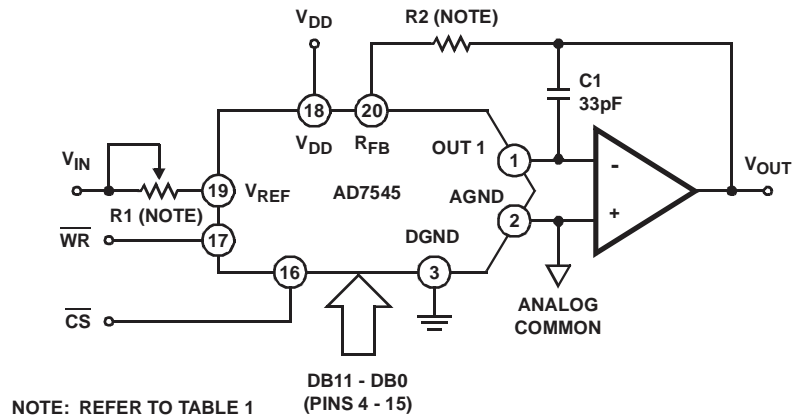
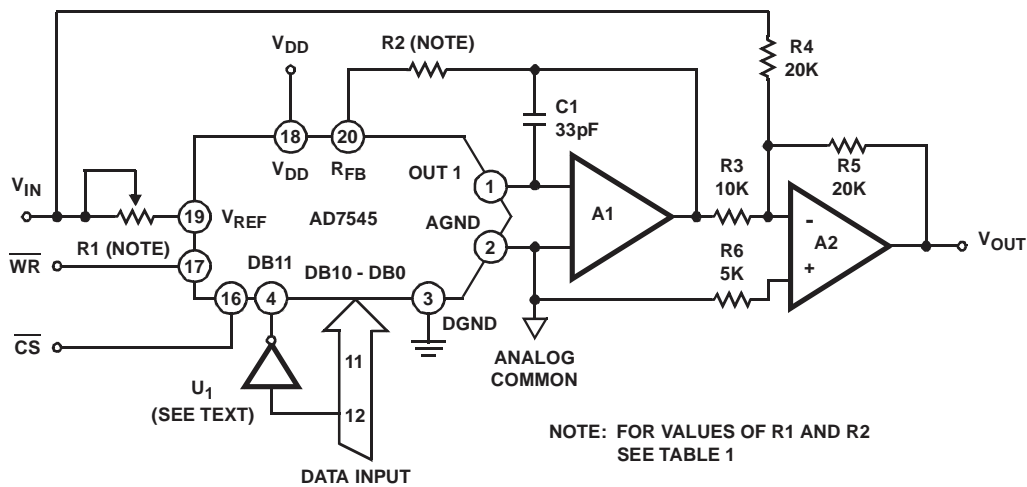

FIGURE 5. UNIPOLAR BINARY OPERATION
FIGURE 6. BIPOLAR OPERATION (2'S COMPLEMENT CODE)
Figures 5 and 6 show simple unipolar and bipolar circuits using the AD7545. Resistor R1 is used to trim for full scale. Capacitor C1 provides phase compensation and helps prevent overshoot and ringing when using high speed op amps. Note that the circuits of Figures 5 and 6 have constant input impedance at the  $V_{REF}$  terminal.
The circuit of Figure 5 can either be used as a fixed reference D/A converter so that it provides an analog output voltage in the range 0V to  $-V_{IN}$  (note the inversion introduced by the op amp) or  $V_{IN}$  can be an AC signal in which case the circuit behaves as an attenuator (2-Quadrant Multiplier).  $V_{IN}$  can be any voltage in the range  $-20V \leq V_{IN} \leq +20V$  (provided the op amp can handle such voltages) since  $V_{REF}$  is permitted to exceed  $V_{DD}$ . Table 2 shows the code relationship for the circuit of Figure 5.
Figure 6 and Table 3 illustrate the recommended circuit and code relationship for bipolar operation. The D/A function itself uses offset binary code and inverter  $U_1$  on the MSB line converts 2's complement input code to offset binary code. If appropriate, inversion of the MSB may be done in software using an exclusive -OR instruction and the inverter omitted. R3, R4 and R5 must be selected to match within 0.01% and they should be the same type of resistor (preferably wire-wound or metal foil), so that their temperature coefficients match. Mismatch of R3 value to R4 causes both offset and full scale error. Mismatch of R5 to R4 and R3 causes full scale error.
The choice of the operational amplifiers in Figure 5 and Figure 6 depends on the application and the trade off between required precision and speed. Below is a list of
**TABLE 2. UNIPOLAR BINARY CODE TABLE FOR CIRCUIT OF FIGURE 5**
**TABLE 3. 2'S COMPLEMENT CODE TABLE FOR CIRCUIT OF FIGURE 6**